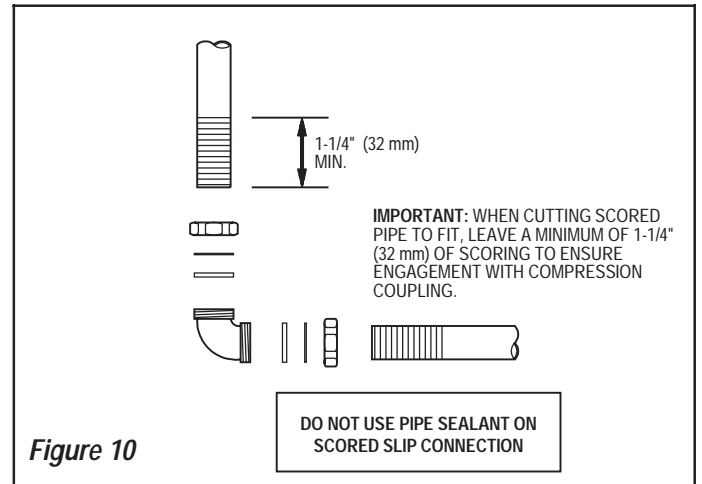

Figure 10
Step 3 — Install Vacuum Breaker Flush Connection (Figure 10)
Note: When cutting scored pipe to fit, leave a minimum of 1-1/4" (32 mm) of scoring to ensure engagement with compression coupling. See Figure 10.